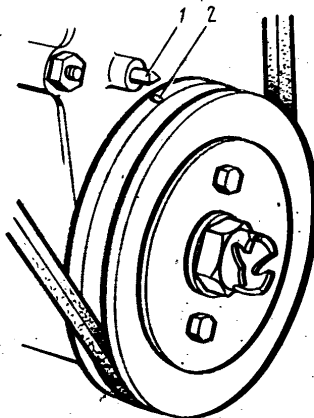
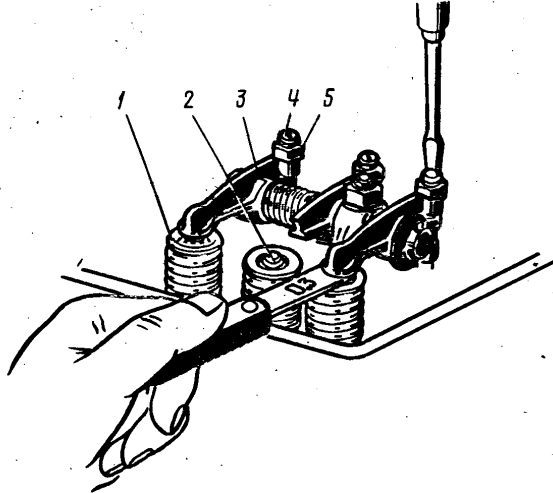

Fig. 28. Setting No. 1 Cylinder Piston at TDC:
Fig. 29. Adjusting Valve-to-Rocker Clearance:
- set the No. 1 cylinder piston at TDC on compression stroke against timing mark 2 (Fig. 28) on the crankshaft pulley and, using a feeler gauge, check the valve clearance between the rockers and the valves of the No. 1 cylinder. If the clearance is wrong, turn off locknut 5 (Fig. 29) of adjusting screw 4 and turning the adjusting screw with a screwdriver, set the clearance by the feeler gauge. Then, holding the adjusting screw with a screwdriver, tighten the locknut and check the clearances;